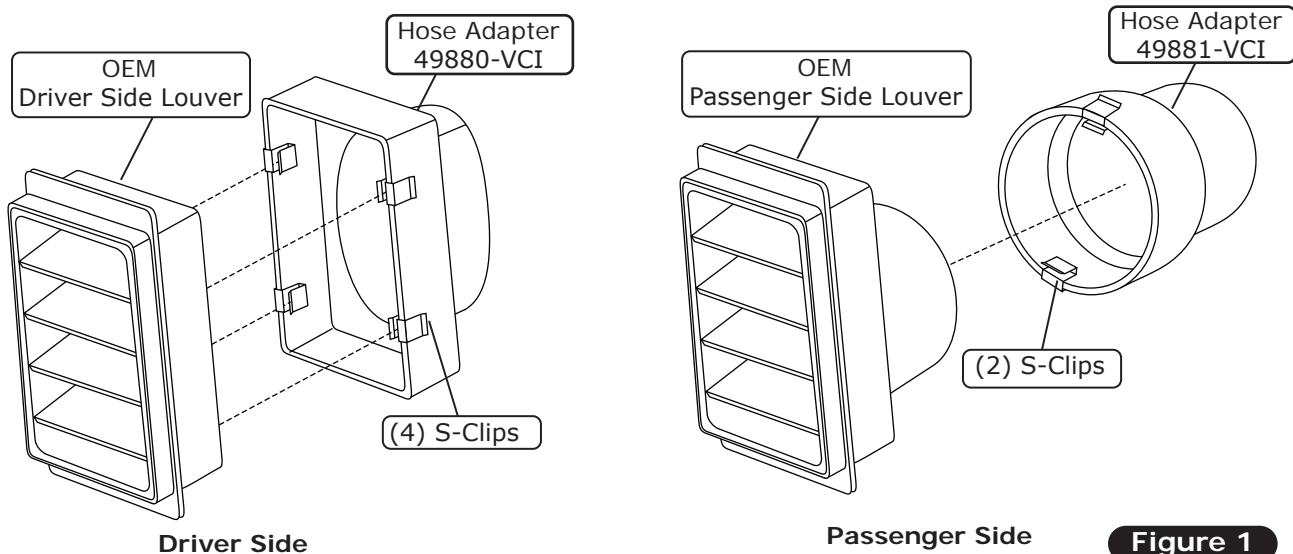

Figure 1
1. Install (4) S-clips onto the driver side hose adapter and (2) S-clips onto the passenger side hose adapter as shown in Figure 1, below.
2. Install the driver & passenger side hose adapters onto the OEM louvers (See Figure 1, below).